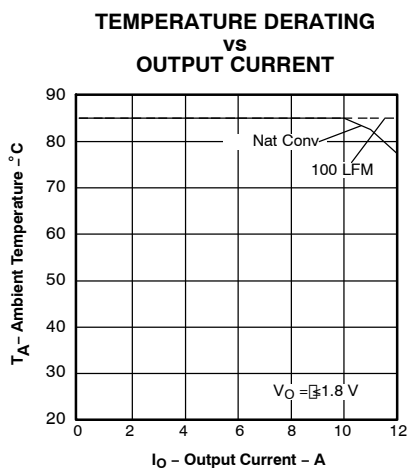

Figure 10.
- (26) The temperature derating curves represent the conditions at which internal components are at or below the manufacturer's maximum operating temperatures. Derating limits apply to modules soldered directly to a 4 inch x 4 inch double-sided PCB with 2 oz. copper. For surface mount packages (AS and AZ suffix), multiple vias (plated through holes) are required to add thermal paths around the power pins. Please refer to the mechanical specification for more information. Applies to Figure 10.